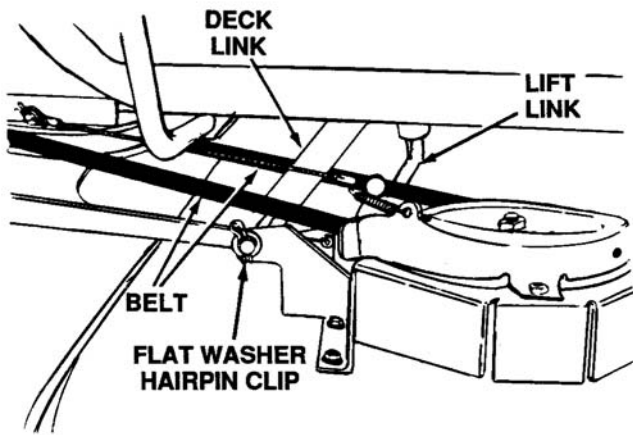

Figure 8-2. Belt Installation
6. Place belt above diagonal brace. Route one side of the belt between the left hand lift link and deck link, and the other side outside of the deck link. Roll belt onto engine pulley. See Figure 8-2.